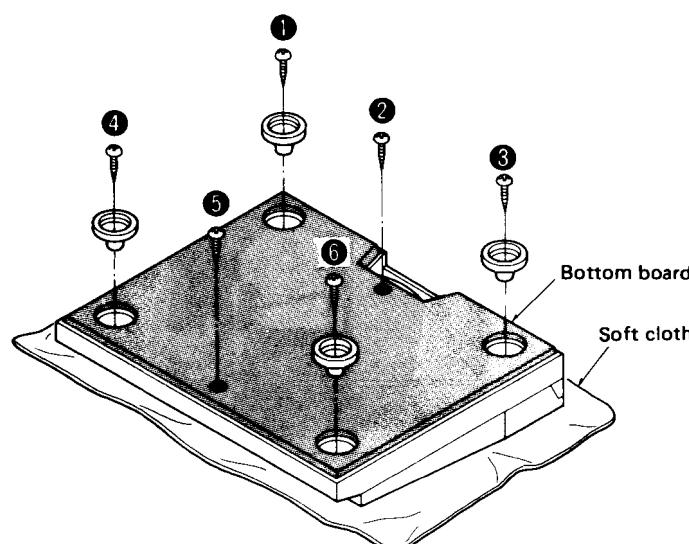

Fig. 5
3. Remove the 6 setscrews (Fig. 5 ① ~ ⑥), 4 insulators and 4 springs (Fig. 5)